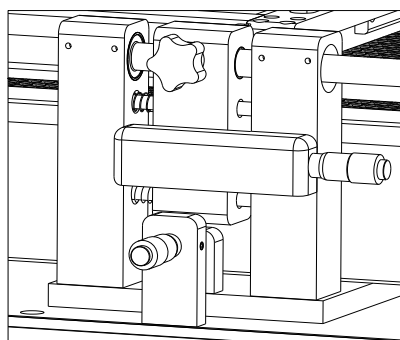

Figure18: PCB clip micro-adjust knob
10、 Pull out the optical alignment system by manual as the Figure (16), in that time will show BGA bottom pad and PCB board with two interlaced images on the CCD monitor.
11、 As Figure (16) you can adjust the focus of optical lens in the arrow position ;
12、 Adjust PCB board X、 Y axis micro-adjust knob (Figure 18) and BGA micro-adjust knob (Figure 17), make two images together completely, and the positioning is finished very well ;
13、 after finished the positioning, turn the optical system back to the origin position, and click Figure (12) positioning completed knob ;
1. Back to the boot screen, (Figure18); click “OPERATION”, (Figure18), then it will show operation curve screen. (Figure19)